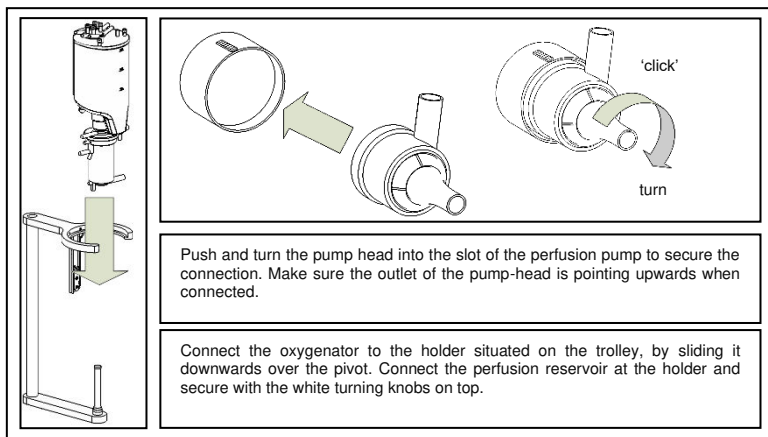

Figure 10: Connection of pump-head and oxygenator to the holder.
- Place the perfusion reservoir (40) with the oxygenator (41) on the holder of the trolley (figure 10).
- Connect the pump head (39) to the magnetic pump coupling (16) (figure 10).
- Connect the oxygen/gas tubing (49) to the oxygen/gas supply.